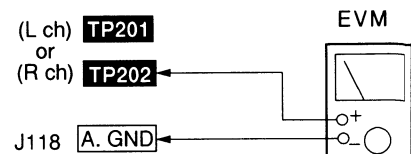

Fig. 5
1. Connect the measuring instrument as shown in Fig. 5.